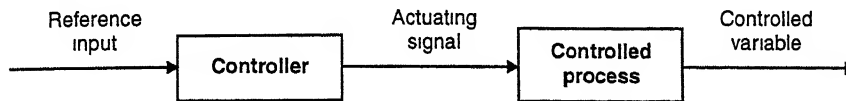

Fig. 7.2. Elements of an open-loop control system.
- The **elements** of an open-loop control system can usually be divided into the following two parts (See. Fig. 7.2) :